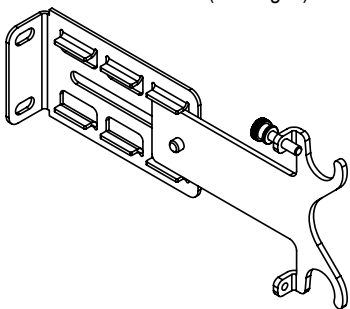

Figure 9
- ① Determine desired location of Optional Fascia. Fascia should be placed so that it hides the Panel Track and Mounting Brackets.
- ② Pre-drill mounting holes for the brackets.
- ③ Mount wall brackets in chosen location (see Fig. 9).